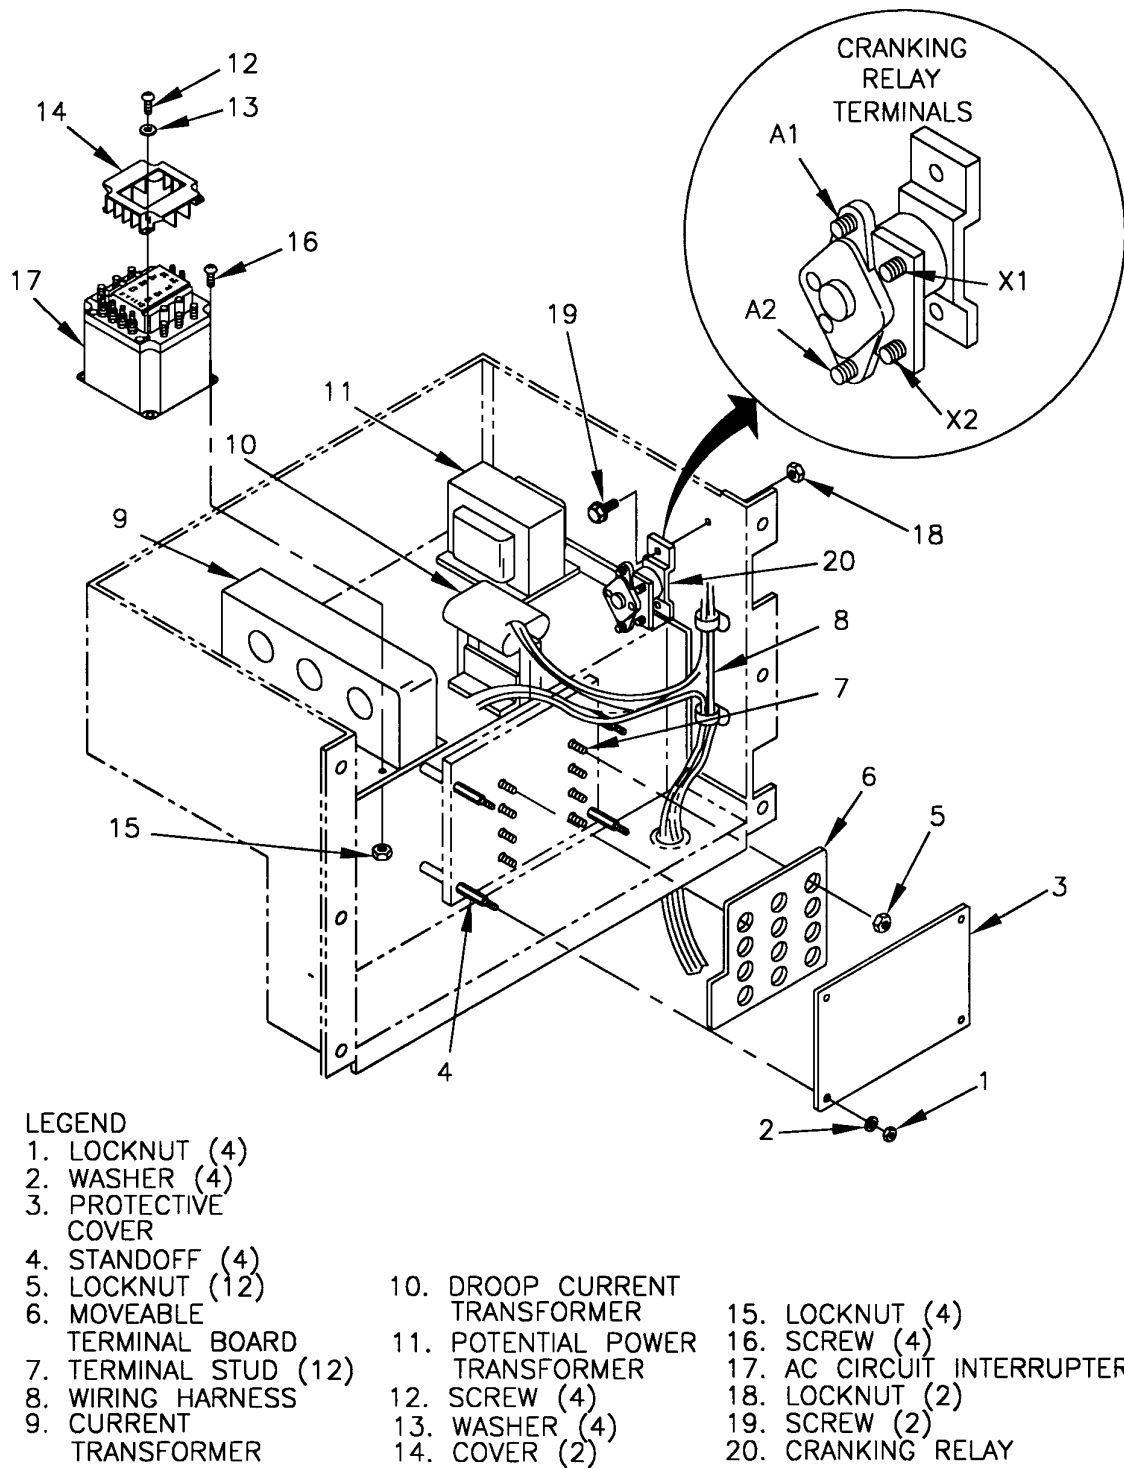

FIGURE 4-28. OUTPUT BOX ASSEMBLY
- (4) Inspect protective cover (3, Figure 4-28) and moveable terminal board (6) for cracks, breaks, corrosion, and other damage.
- (5) Replace defective parts.
- (6) Connect negative battery cable to battery and close battery access door.
- (7) Close output box access door.
- (4) Remove locknuts (1, Figure 4-28), washers (2), and protective cover (3) from standoffs (4).
- (5) Remove locknuts (5) and moveable terminal board (6) from terminal studs (7).
- (1) Install moveable terminal board (6, Figure 4-28) and locknuts (5) on terminal studs (7).
- (2) Install protective cover (3), washers (2), and locknuts (1) on standoffs (4).
- (3) Close output box access door.
- (4) Connect negative battery cable to battery, and close BATTERY ACCESS door.
- (3) Inspect wiring harness (8, Figure 4-28) for burned, bent, corroded, and broken terminals.
- (4) Inspect connectors for cracks, corrosion, stripped threads, bent or broken pins, and obvious damage.
- (5) Inspect wire insulation for burns, deterioration, and chafing.
- (6) Close output box access door.
- (4) Set multimeter for ohms, and test individual wires of wiring harness (8, Figure 4-28) for continuity. Refer to wiring diagram, FO-3, for wire identification.
- (5) Close output box and engine compartment access doors.
- (6) Connect negative battery cable to battery, and close BATTERY ACCESS door.
- (3) Inspect current transformer (9, Figure 4-28) for security, cracked housing, broken or stripped terminals, and loose or missing hardware.
- (4) Close output box access door.
- (4) Tag and disconnect electrical leads from current transformer (9, Figure 4-28) secondary terminals A1, A2, B1, B2, C1 and C2.
- (5) Set multimeter for ohms, and check for continuity between secondary terminals A1 and A2, B1 and B2, and C1 and C2.
- (6) If continuity is not present, current transformer is defective. Notify next higher level of maintenance.
- (7) If continuity is present, connect electrical leads to secondary terminals A1, A2, B1, B2, C1, and C2. Remove tags.
- (8) Close output box access door.
- (9) Connect negative battery cable to battery, and close BATTERY ACCESS door.
- (3) Inspect droop current transformer (10, Figure 4-28) for security, cracked housing, broken wire terminals, and loose or missing hardware. If testing or replacement is required, notify next higher level of maintenance.
- (3) Inspect potential power transformer (11, Figure 4-28) for security, cracked housing, broken wire terminals, and loose or missing hardware. If testing or replacement is required, notify next higher level of maintenance.
- (3) Inspect AC circuit interrupter (17, Figure 4-28) for security, cracked housing, broken wire terminals, and loose or missing hardware.
- (4) Set multimeter for ohms, and check for open circuits between AC circuit interrupter (17, Figure 4-28) terminals A1 and A2, B1 and B2, C1 and C2, and 11 and 12.
- (5) Connect jumper wire from cranking relay (20) terminal A1 to AC circuit interrupter (17) terminal X.